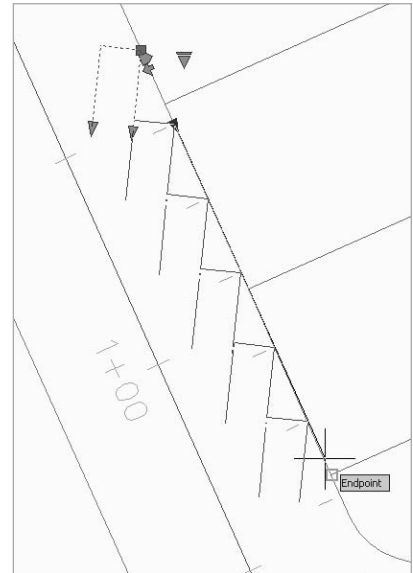

Figure 2.18
8. Snap to the front endpoint of the lot line dividing Lots 6 and 7, as shown in Figure 2.18, to finish the parking stall layout.